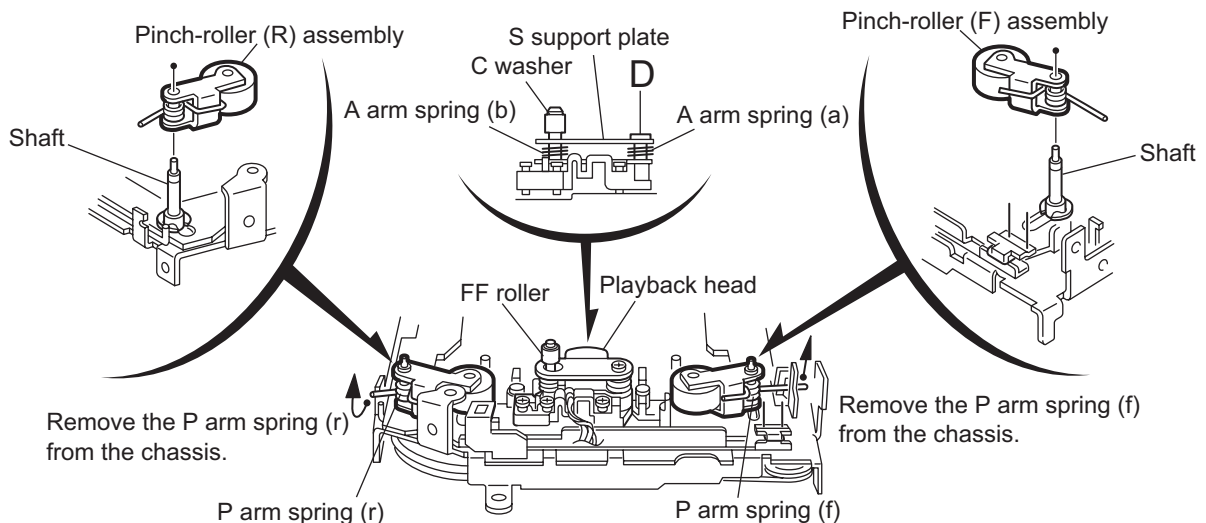

Fig.2
#### 3.2.4 Removing the playback head (See Fig.2)
#### 3.2.5 Removing the pinch-roller (R) and (F) assembly (See Fig.2)